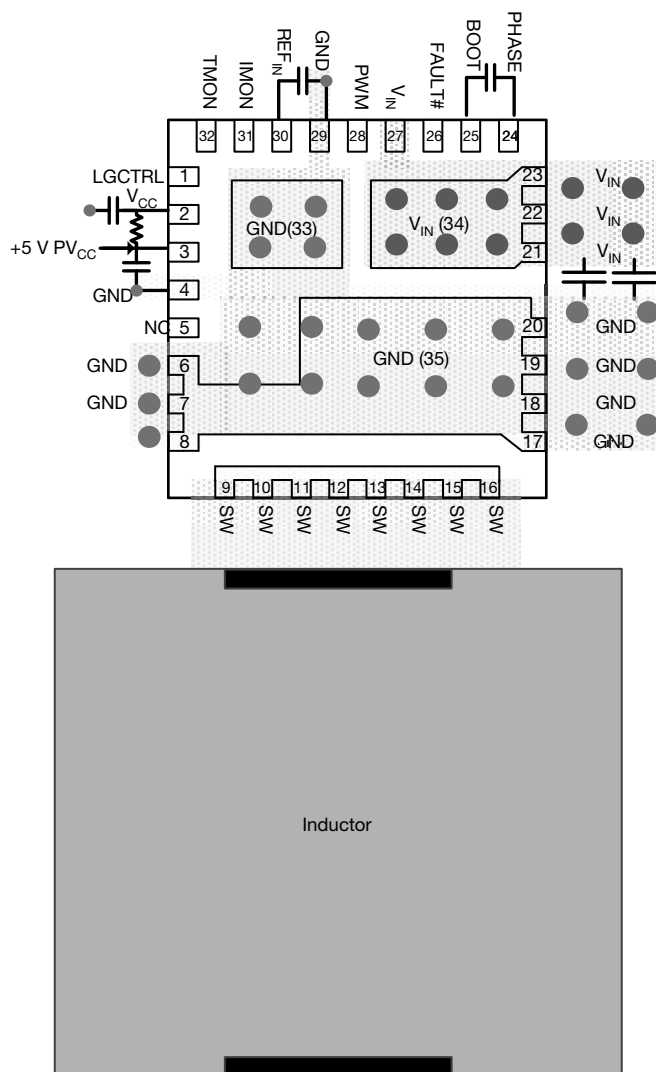

Fig. 16 - Single-Phase PCB Layout for Minimizing Current Loops
- Place multiple 10 μ F or greater ceramic capacitors directly at device between V_{IN} and P_{GND} as indicated in Fig. 16. This is the most critical decoupling and reduced parasitic inductance in the power switching loop. This will reduce overall electrical stress on the device as well as reduce coupling to other circuits. Best practice is to place the decoupling capacitors on the same PCB side as the device.
- Place PV_{CC} , V_{CC} and BOOT-PHASE decoupling capacitors at the IC pins as shown in Fig. 16.